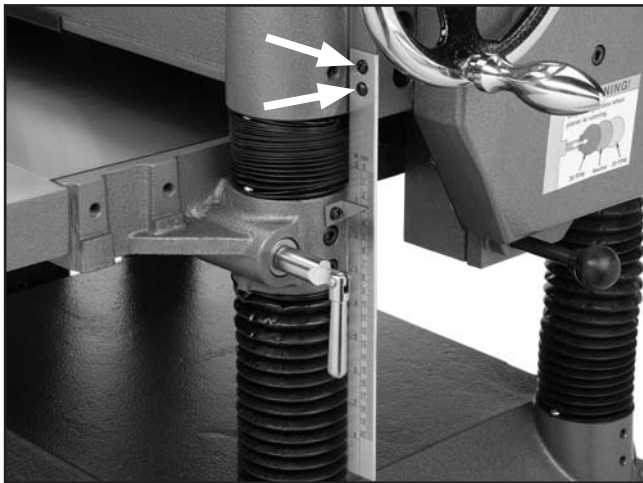

Figure 39. Depth scale adjustment screws.
4. Re-measure the board and compare your results with the scale. If there is a discrepancy, loosen the screws (see **Figure 39**) and adjust as necessary.